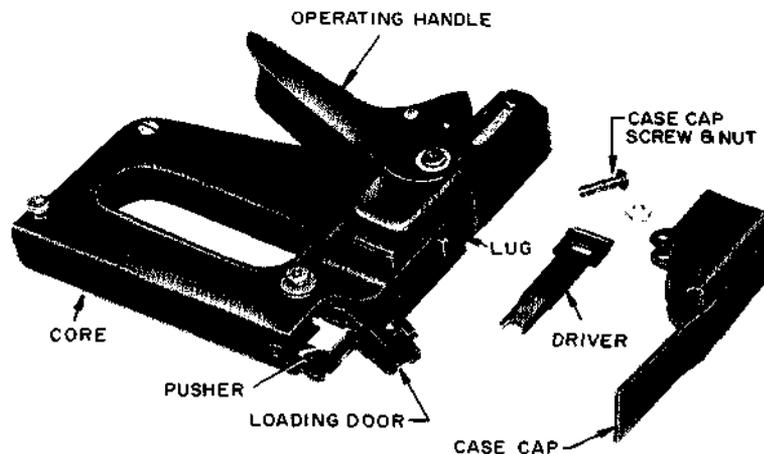

Fig. 2 - L3T Stapler - Dismantled
3.01 To load stapler, hold it in left hand with handle away from body. Slide the loading door upward until it unlocks and swings open. With stapler still held in the left hand, slide the staples into the core against the pressure of the pusher. To close door, swing door back and downward. (Fig. 2.)